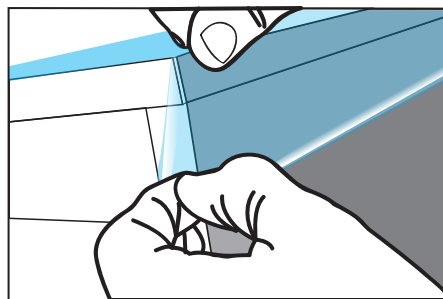

Figure 10
- › Apply the film to the second edge and wrap the corner with a slight overlap of both films. (FIG. 10)